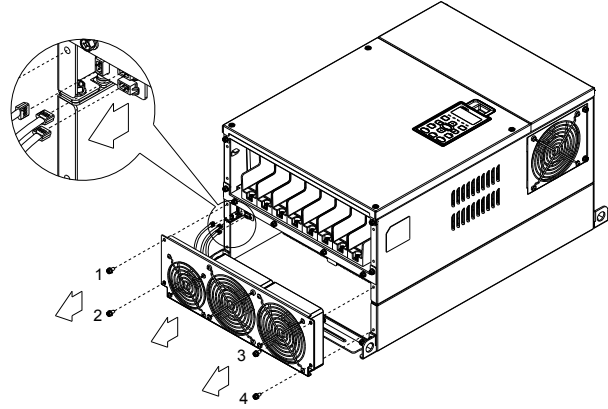

Figure 2
1. Loosen screw 1~4 (figure 2) and disconnect fan power and pull out the fan. (As shown in the enlarged picture 3)